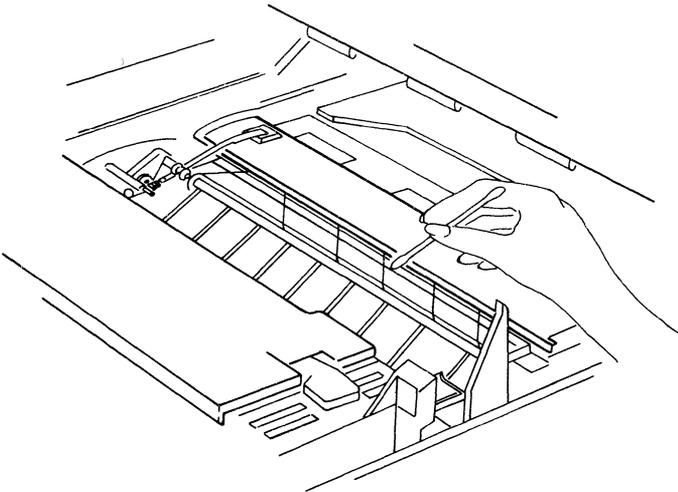

Figure 7: Cleaning the Transfer Corona Wire
2. Use a cotton swab (provided with the print cartridge) to gently clean the transfer corona wire (Figure 7). It may be helpful to dip the swab in alcohol if there is a stubborn spot on the wire.